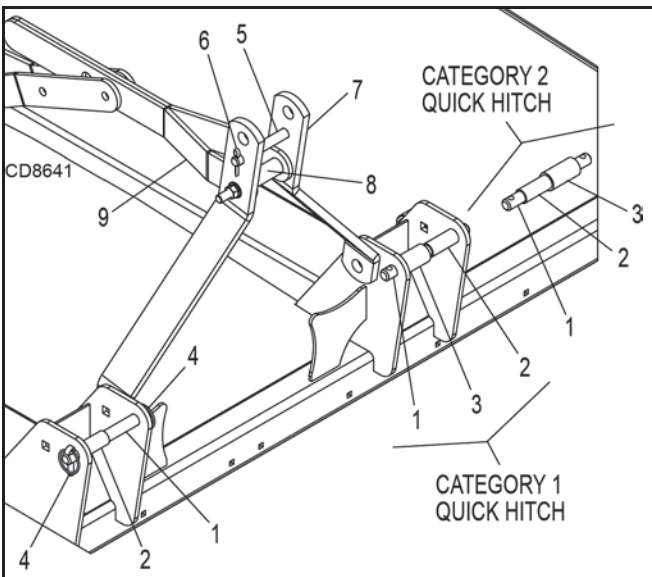

Figure 2. DS8.30E Standard and Quick Hitch Connection
2. Insert lower hitch pins (1) through mast plates and tractor lower lift arms. Use sleeves (2) to keep lift arms in position. Secure with 11.1 mm (7/16") klik pins (4).
3. Connect the tractor top link to the cutter A-frame using the middle holes and 19 mm (3/4") pin (5), cotter pin (6), and 6.4 mm (1/4") klik pin (7). See Figure 2.
2. Insert lower hitch pins (1) and 28.6 mm (1-1/8") OD sleeves (2) through mast plates and tractor lower lift arms. Use sleeves (3) to keep lift arms in position. Secure with 11.1 mm (7/16") klik pin (4).
3. Connect the tractor top link to the cutter A-frame using the top holes and 25.4 mm (1") pin supplied with tractor top link. See Figure 2.
1. Insert lower hitch pins (1), 28.6 mm (1-1/8") OD sleeves (2), and 36.5 mm (1-7/16") OD sleeves (3) through mast plates. Secure with 11.1 mm (7/16") klik pins (4). Note the sleeve orientation in Figure 2.
2. The upper hook on quick hitch will engage 31.8 mm (1-1/4") sleeve (8) between break links (9).